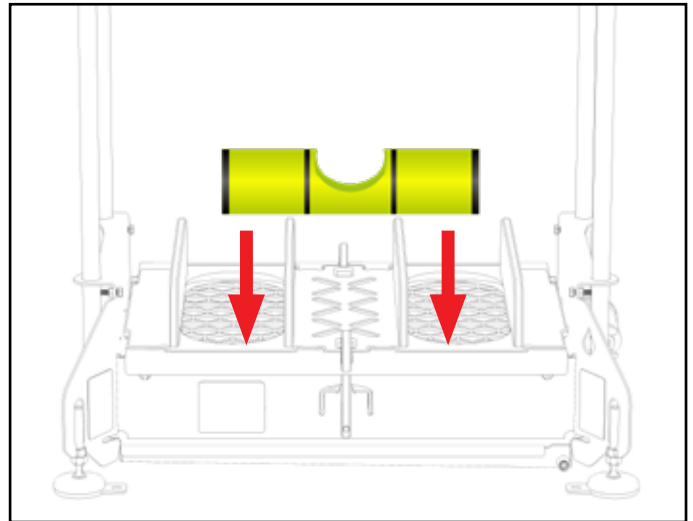

Fig. 6.1: Verify level of unit at each end
3. Using a level and 3/4" wrench, stabilize the unit and level in all directions by adjusting the feet and lock nuts as necessary [Figure 6.1].